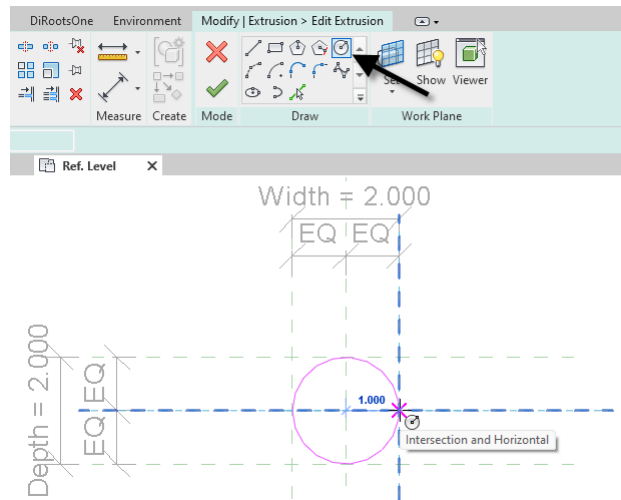

Figure 2—Draw a circle and snap it to the reference planes
- ⇒ Draw the circle centered on the reference planes in the file. Snap the size of the circle to the width and depth defined by the reference planes (see Figure 2).